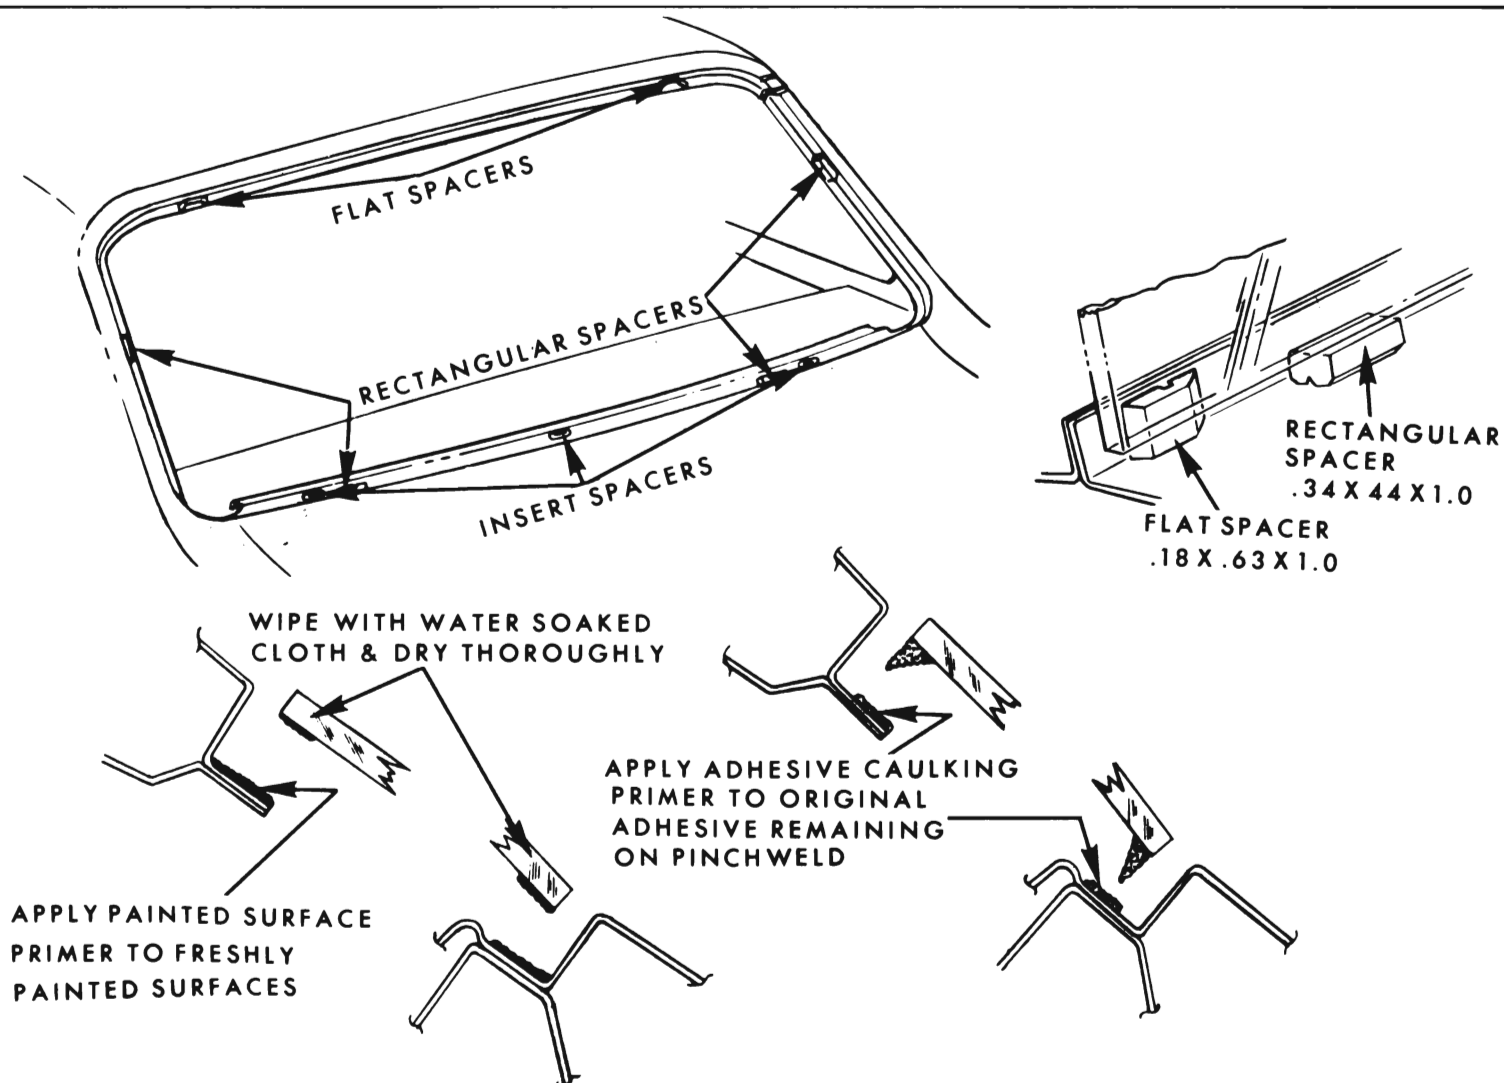

Fig. 9-1—Back Window Adhesive Caulked Installation
- With black weatherstrip adhesive cement two flat spacers (.18 x .63 x 1.0 Part #4421823 or equivalent) to pinchweld flange at top, approximately fifteen inches each side of centerline of opening (Fig. 9-1).
- With black weatherstrip adhesive, cement four rectangular spacers (.34 x .44 x 1.0 Part #4871330 or equivalent) to back window opening rabbet - one in center of each side and two at bottom, approximately nineteen inches from centerline of opening (Fig. 9-1).
spacers (.18 x .24 x .74 Part #4410043 or equivalent) at bottom, one in center and one each approximately 22 inches from centerline (Fig. 9-1). On all other styles cement (with black weatherstrip adhesive) three flat spacers (.18 x .62 x 1.0 Part #4421823 or equivalent) at bottom, one in center and one each approximately 22 inches from centerline.